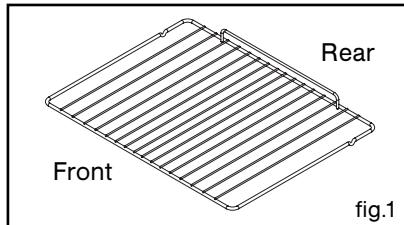

fig.1
• **Anti-rocking safety grid (fig.1)**